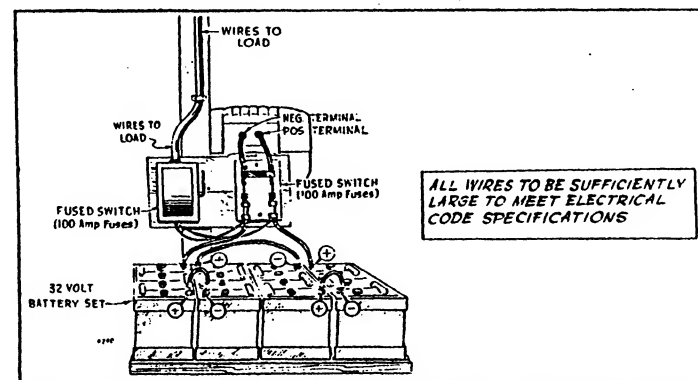

FIG. 17 - BATTERY CHARGING LOAD CONNECTIONS
**CONNECTING THE 32-VOLT DC LOAD - DUAL PURPOSE PLANTS ONLY.** - Make connections as shown in Fig. 17. Although these plants are basically ac plants, they produce up to 750 watts of 32 volt, direct current for charging 32-volt batteries. The 32-volt dc load is to be taken from the battery.
Connect the 32-volt dc load directly to the battery switch as shown in Fig. 17. Connect the "hot" side of the main line wire to the "Hot" side of the battery switch. Connect the grounded side of the main
- A. 32-VOLT BATTERY CHARGING PLANTS.** - Make load connections as shown in Fig. 17. The main line should be protected by a main switch fused with 100 ampere fuses. Be sure the wire used between the battery switch and the main switch is large enough to safely carry the output of the battery plus the rated capacity of the generator. Smaller wire may be used for branch circuits. The size depends upon the amount and kind of load. Electrical appliances to be operated from this unit must be for operation on 32-volt dc systems.